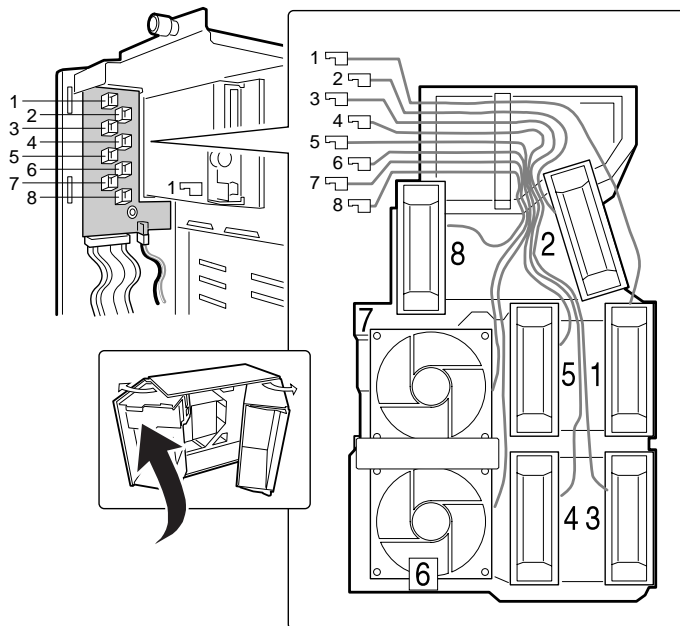

Figure 25: Fan Cabling
5. Label and disconnect the desired fan cable from the front panel board. Be sure to note the position of the cable where it is held in place in the foam fan assembly (see Figure 25).
The two installed fans nearest the 5.25-inch drive bays (fans 6 and 7 in Figure 25) are separated by a square piece of foam (the piece with a crescent-shaped hole) that extends perpendicularly from the front of the fans (in Figure 25, it is the rectangle between the round faces of fans 6 and 7). You must remove this piece to access the two fans it separates (pull it straight out).
4. Attach the cable to the foam at the correct places (if you are replacing a bad fan, you should have recorded where each cable attaches to the foam; if you are adding a fan, see Figure 25 on page 61).